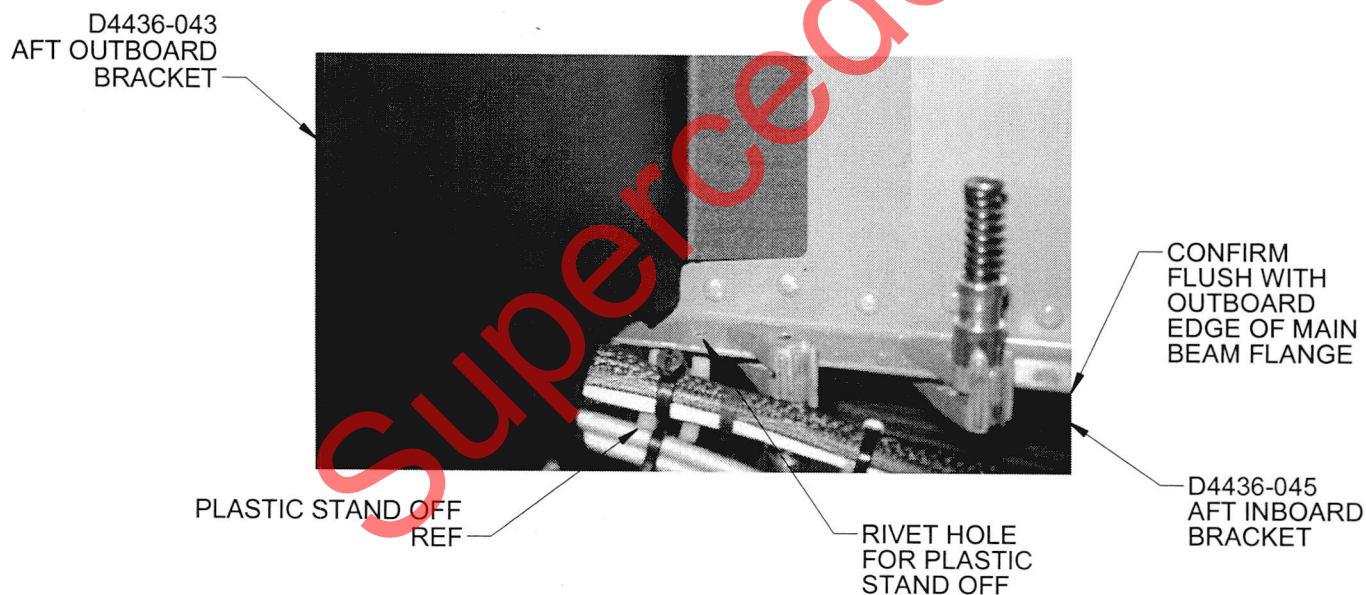

Figure 6. D4436-043 & D4436-045 Brackets Installation
- 4.4 Drill off rivets holding plastic wire bundle stand offs. Transfer drill $\varnothing 0.144$ holes to D4436-045 Aft Inboard Bracket per Figure 6. Transfer drill 2 x $\varnothing 0.144$ holes to D4434-043 Fwd Inboard Bracket per Figure 7. Transfer drill 2 x $\varnothing 0.144$ holes for D4434-043 Fwd Inboard Bracket per Figure 8. Before drilling confirm the D4434-043 and D4436-045 brackets are flush with outboard edge of main beam flange. Assemble D4436-045 Aft Inboard Bracket and D4434-043 Fwd Inboard Bracket and wire bundle stand offs to main beam flange using AN525-632R6 screw, NAS1149FN616P washer and MS21042L06 nut.